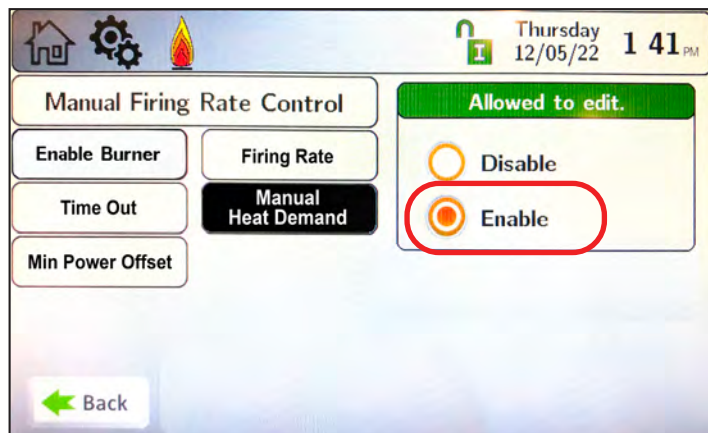

**Figure 46. High and Low Fire Adjustments on the Gas Valve**
2. Refer to Figure 46 to locate the adjustments for high fire throttle and low fire offset on the main gas valve.
- 8 Once your analyzer has stabilized, make adjustments to High-Fire at the adjustment as shown in Figure 46